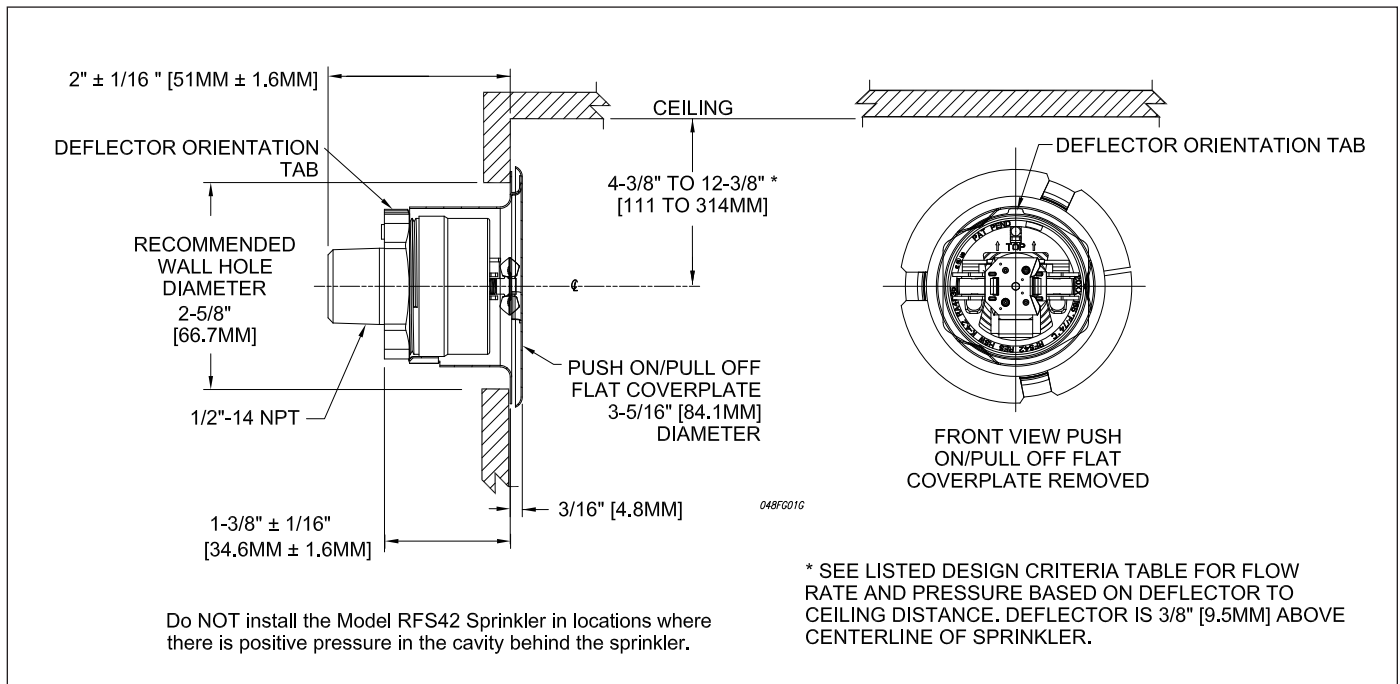

Fig. 1
Do not remove the factory installed plastic protective cap since it is sized to fit inside the G6 wrench. Note that the sprinkler can only mate when the sprinkler's deflector orientation tab (Fig. 1) is aligned with wrench's key-way. The G6 wrench is provided with bubble level pad and TOP marking, to allow the proper orientation of the horizontal sidewall deflector. Final leveling can be done after leak proof joint is obtained with a minimum to maximum torque of 8 to 18 ft-lbs (11 to 24 N·m). Leave the protective cap on to protect the sprinkler while the wall is plastered, wallpapered or painted. The protective cap must be removed and the listed cover plate installed prior to the sprinkler system being placed in service. A 2⁵/₈" (67 mm) diameter hole must be cut in the wall for the sprinkler assembly to extend through.
4. The sprinkler fitting shall be installed so that the rear of the sprinkler is 2⅛" +/- 1/16" from the finished surface of the wall. Verify wall assembly dimensions prior to installation to ensure that the cover plate attaches to the sprinkler and seats against the finished wall surface (Fig. 1).